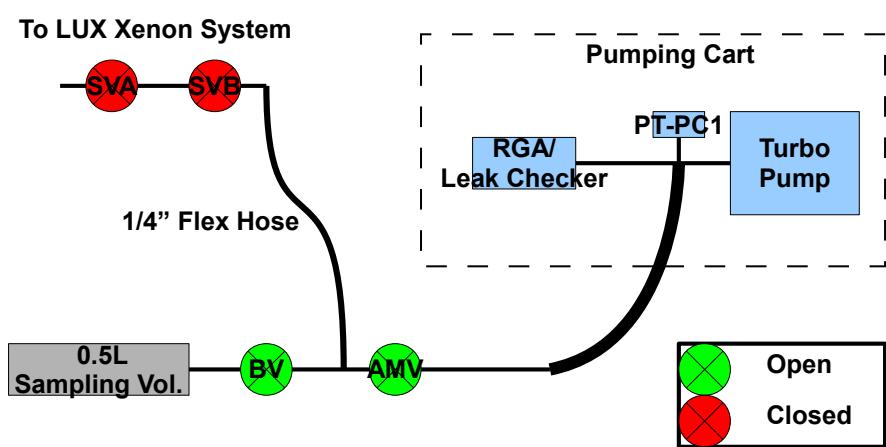

Figure 7: Illustrated procedure for attaching the sampling manifold to the LUX xenon system
5. Set up the sampling plumbing according to Figure 7 and Figure 8.